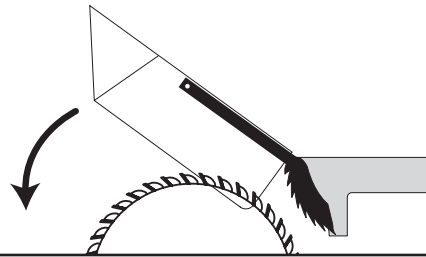

Figure 54. Typical ripping operation.
10. Use a push stick to feed the workpiece through the saw blade, as shown in **Figure 54**, until the workpiece is completely past the saw blade.